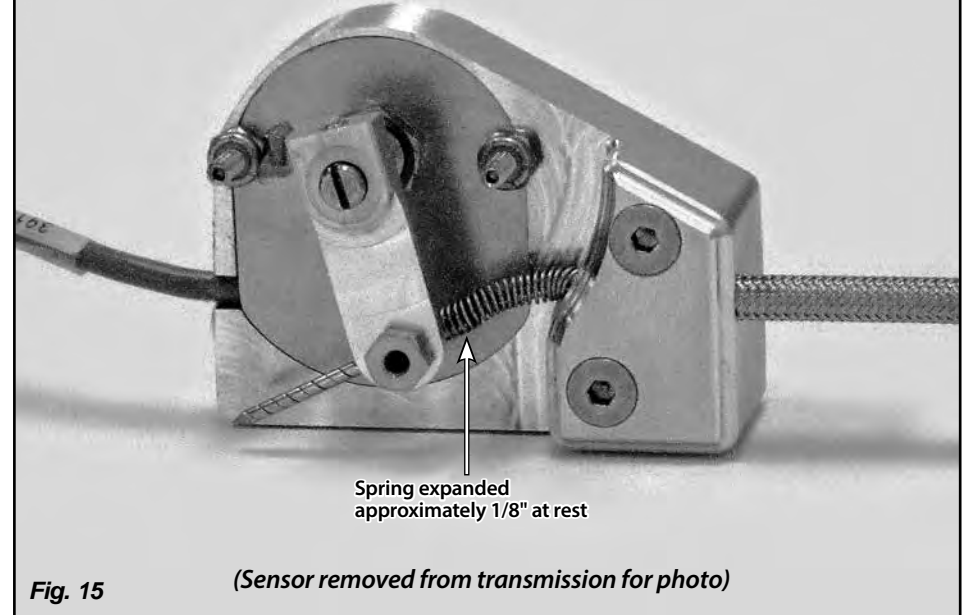

Fig. 15
- **All applications with the trans arm pointing DOWN: Push the sensor arm as far as it will go until the spring is completely compressed. Then let the spring expand approximately 1/8". Fig. 15** While holding that position, tighten the set screw in the index cable stop on the sensor arm using a 1/16" Allen wrench.